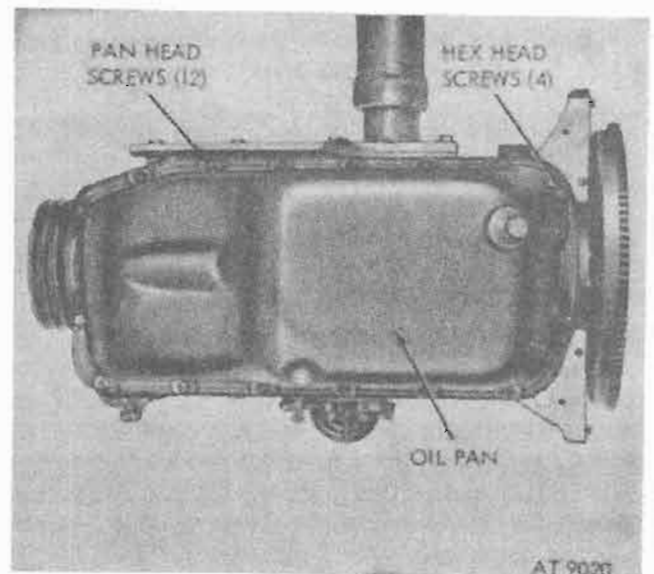

Figure 4-87. Oil pan.
b. Oil Pan. Remove four hex-head screws and washer assemblies with flat washer; also remove 12 slotted cap screws, lockwashers, and spring retainers securing oil pan to cylinder block and front cover. Remove oil pan from cylinder block (fig. 4-87).